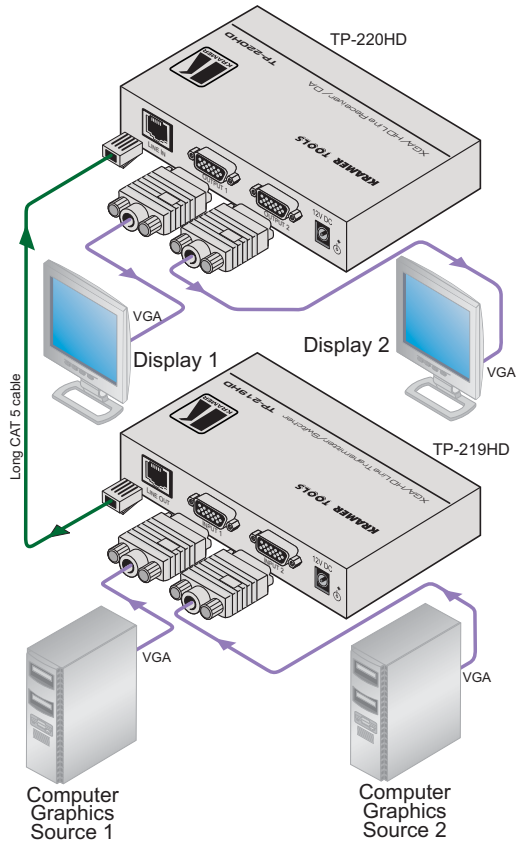

Figure 5: Connecting the TP-219HD/TP-220HD XGA System
To connect the **TP-219HD** to the **TP-220HD**, as the example in Figure 5 illustrates, do the following:
6. Connect the 12V DC power adapter to the power socket and connect the adapter to the mains electricity on both⁴ the **TP-219HD** and the **TP-220HD** (not shown in Figure 5).